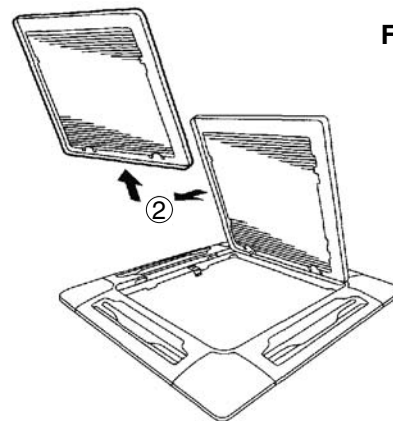
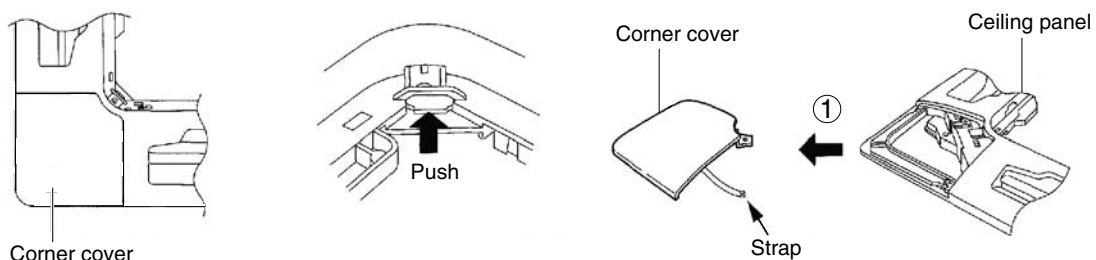

Fig. 9-27
Fig. 9-28
- c) With the air-intake grille opened, remove the grille hinge from the ceiling panel by sliding it in the direction shown by the arrow ②. (Fig. 9-27)
- (2) Removing the corner cover
- a) Slide the corner cover to the direction shown by the arrow ① to remove the corner cover. (Fig. 9-28).